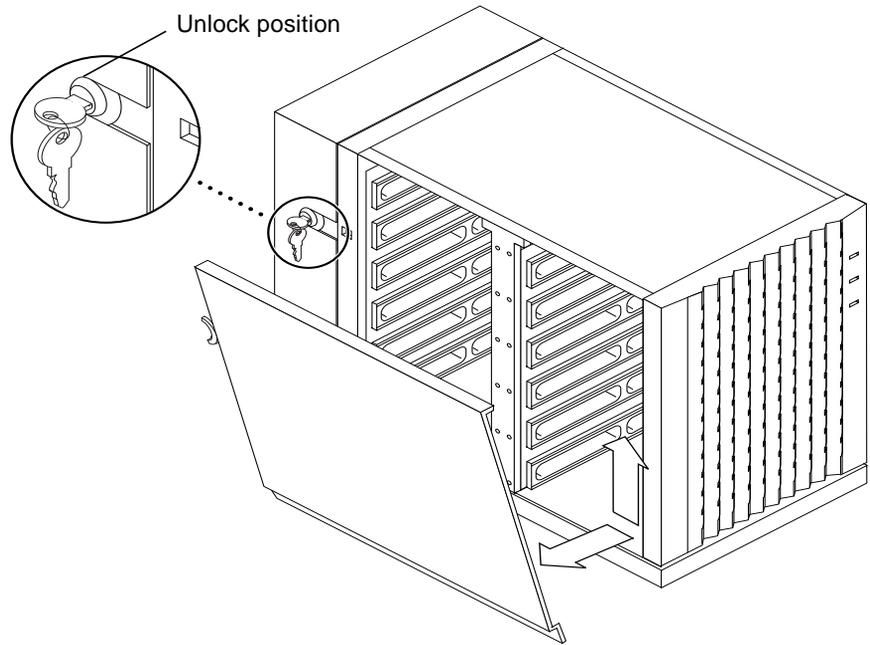

FIGURE 2-2 Removing the Left Side Cover
- 2. Unlock and remove the left side cover (FIGURE 2-2).**